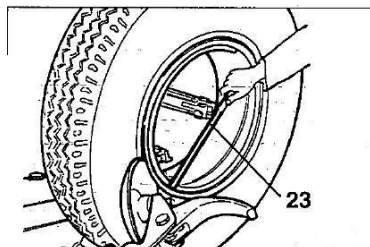

Fig.7.17
- 5) Repeat this procedure but this time bring the disk against the split-ring (See Fig.7.17) until the lock ring is freed. Remove this with the special lever LC (23, Fig.7.17) or with the help of the disk.
5) Repeat this operation but this time move the disk against the split-ring (See Fig.7.17) until the locking ring is released, this ring can be removed with the special LC lever (23, Fig.7.17) or with the help of the bead disk.